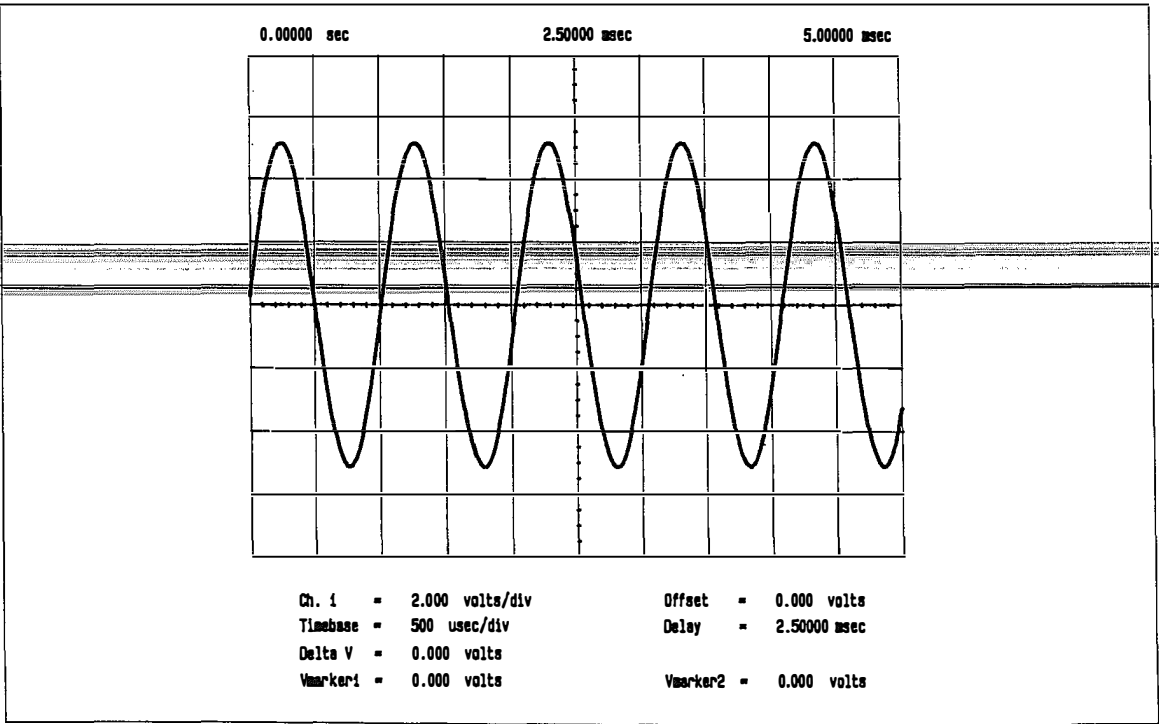

Figure 7-7 SYNC 2 Test Sine Wave
- 8. Refer to figure 7-7 to verify the correct result.